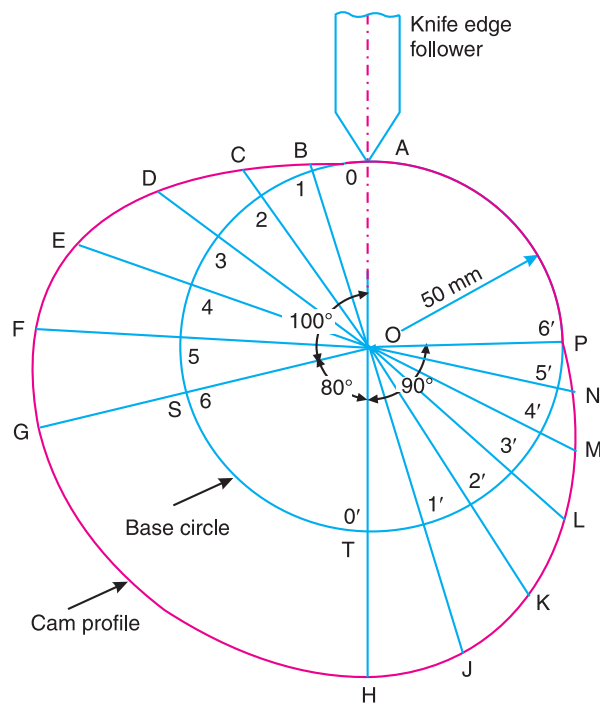

Fig. 20.25
The profile of the cam when the line of stroke of the follower passes through the centre of cam shaft, as shown in Fig. 20.25, may be drawn as discussed in the following steps :
6. Join the points A, B, C . . . M, N, P with a smooth curve as shown in Fig. 20.25. This is the required profile of the cam.